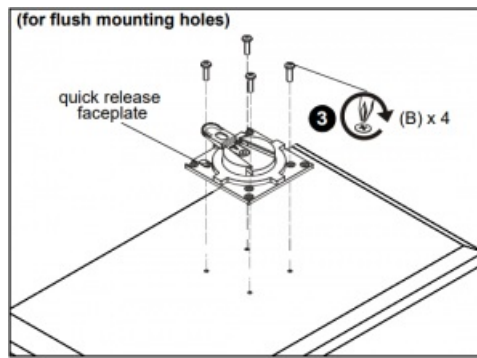

Figure 9
- Using Phillips screwdriver, carefully install four M4x10mm screws (B) through corresponding holes on faceplate and into the mounting holes on the display. (See Figure 9)